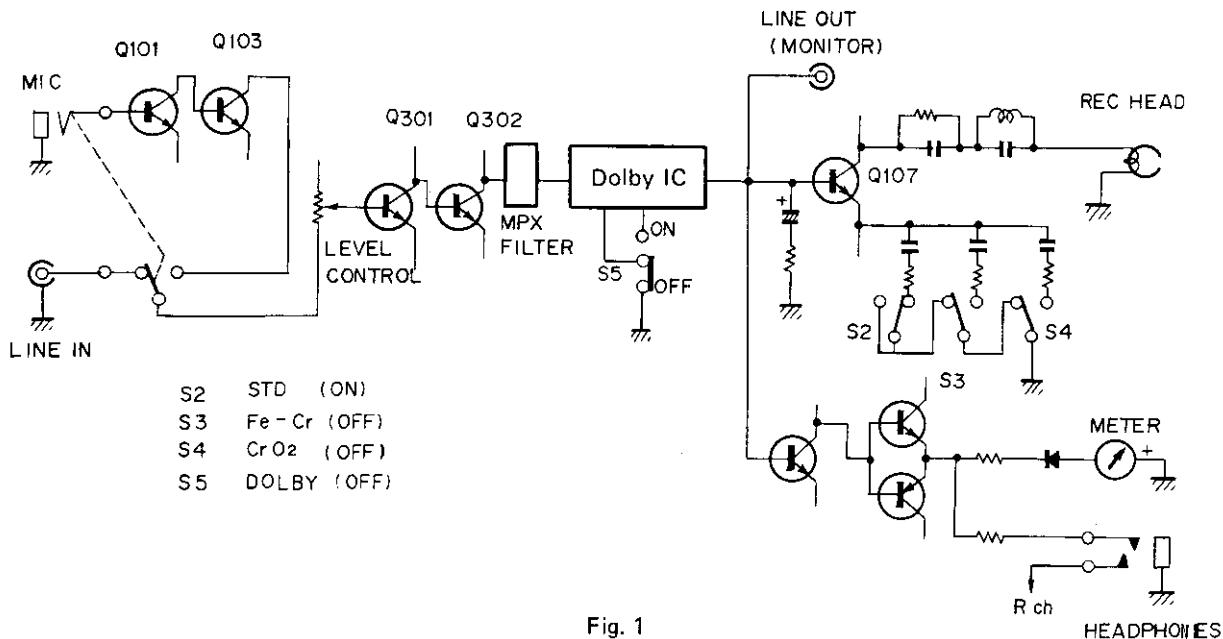

Fig. 1
(Figs. 1, 2)
1. Fig. 1 only shows the signal path at recording. The additional circuitry and parts necessary at playback are omitted.